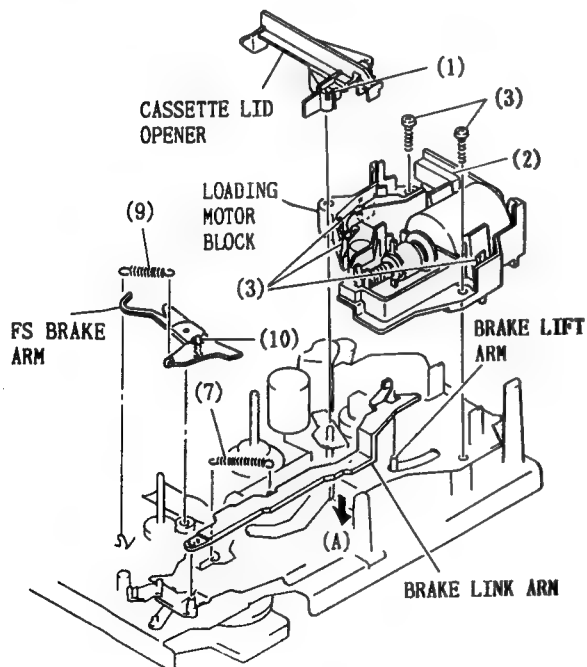

Fig. 7-9 Loading Motor Block, Brake Link Arm FS Brake Arm
9. Loading Motor Block, Brake Link Arm and FS Brake Arm (Fig. 7-9)